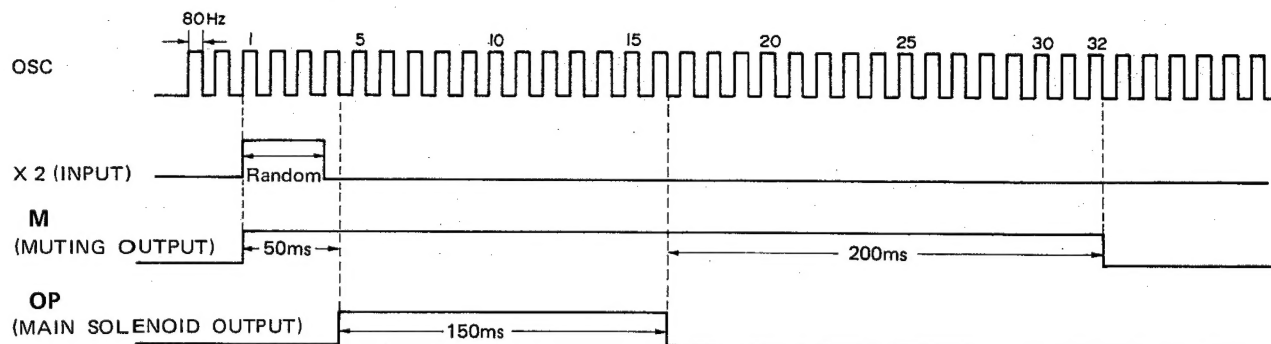

Fig. 3
- 3) Direction change operation (Fig. 3)